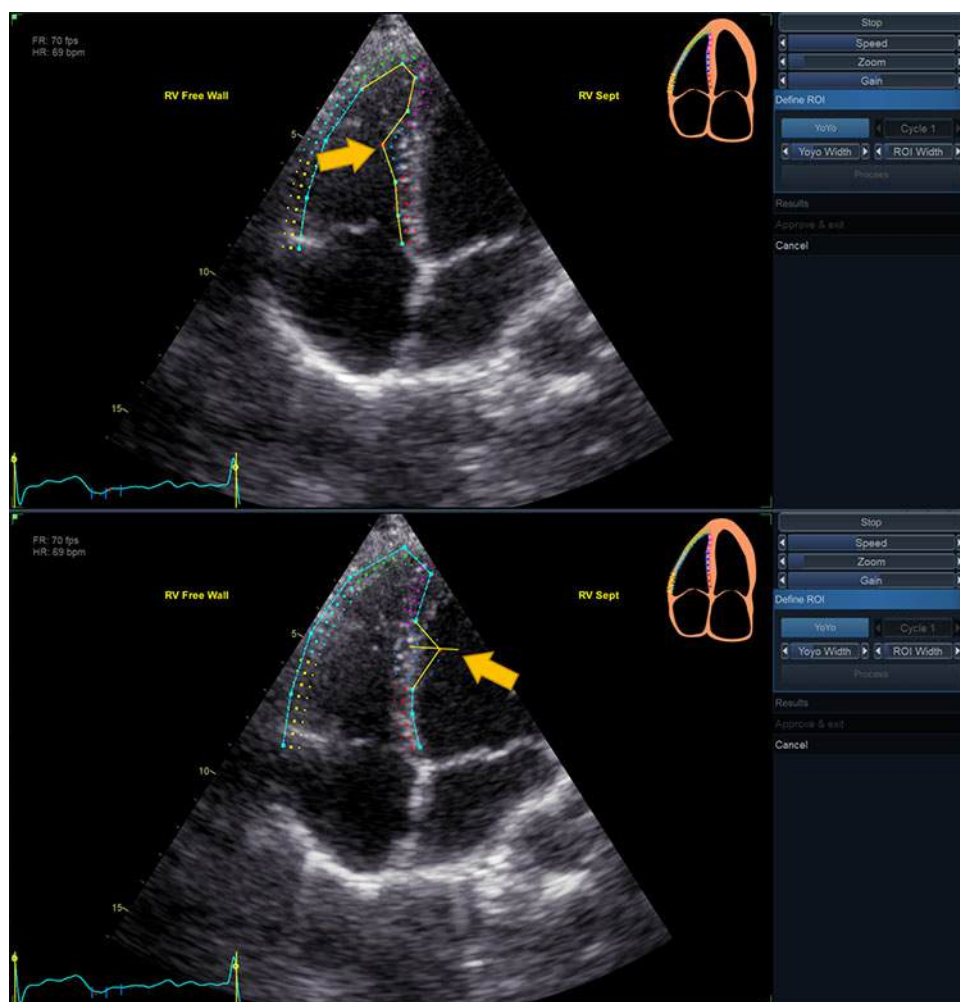

Figure 8-25. ROI Editing Options
- Click-and-drag (or click, move the mouse, click to release) on the endocardial part of the ROI. Endocardial editing edits the whole ROI (Figure 8-25, upper part).
- Click-and-drag (or click, move the mouse, click to release) the anchor points on the epicardial ROI (highlighted in red on mouse hovering). Epicardial editing edits the epicardial part only (Figure 8-25, lower part).